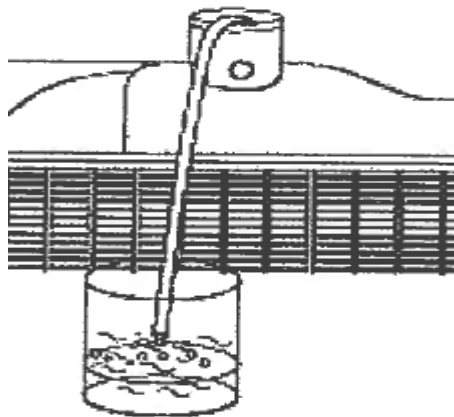

Fig.11
- Prepare a container and remove the approximately 1/10 of the volume of the coolant.(Fig.11 next page)